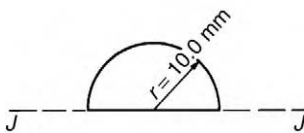

Figure 7.22
4. For the semicircle shown in Figure 7.22, find the second moment of area and radius of gyration about axis  $JJ$